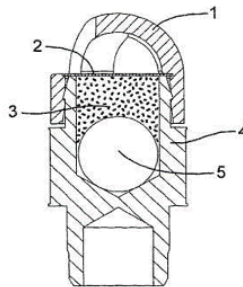

Fig. 2. Cross-sectional view of a UTM MMR cartridge [4]:
The design of the marker projectile of the UTM MMR (Fig. 2) has the effect of marking the target with the marking compound (3) when it is hit. The marker projectile comprises a hollow body (4), which is the essential part; it guides the marker projectile assembly through the barrel and carries the projectile components.